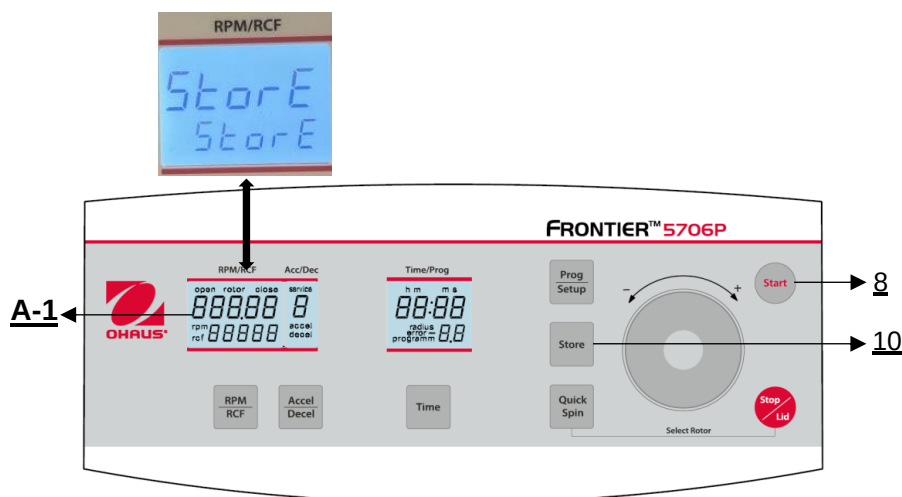

Figure 29
All changed settings must be confirmed by the key **Start**(8) or **Store** (10). The word **Store** appears in the display **RPM | RCF** (A-1) – Only then the pre-selections are valid (see **Figure 29**). After you have stored the settings, you can change to normal program mode again by switching off the centrifuge for a short while.